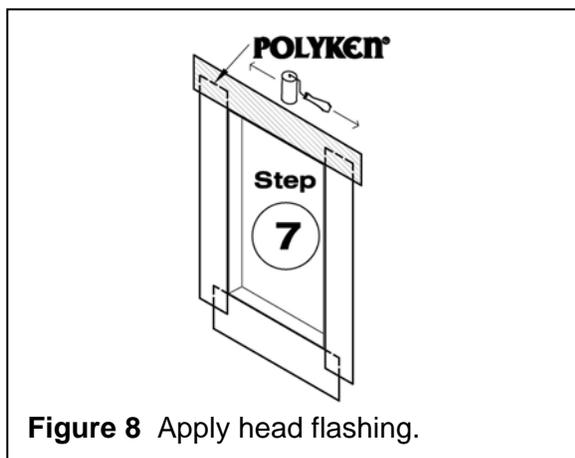

Figure 8 Apply head flashing.
Step 7. Precut Polyken® or Nashua® head flashing tape to extend a minimum of 6" beyond the jambs of the rough opening. Peel off release liner and adhere Polyken® or Nashua® membrane over window fin (and optional preformed head flashing) (see Figure 8).